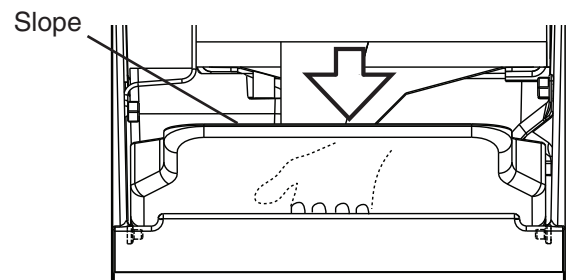

**Fig. 44**
14) Slide in the water tank along the rails at the bottom of the left and right brackets until it locks into place. See Fig. 44.